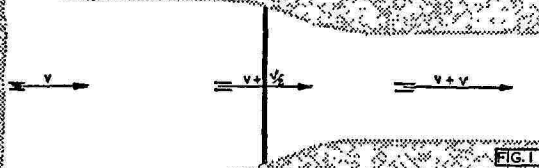
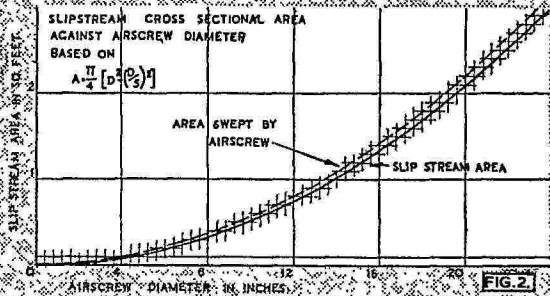

FIG. 1
FIG. 2
Consider Fig. 1. The air just in front of the airscrew disc is being accelerated so that its ultimate velocity is  $V + v$ ,  $V$  being the flying speed, and  $v$  the velocity added by the airscrew. Notice that after leaving the disc, the slipstream diameter contracts slightly, resulting in the cross-sectional area being smaller than the area swept by the airscrew. The exact area for model size airscrews is given in Fig. 2, or by the equation
- $A$  = slip stream area in sq. feet (Fig. 2)
From Fig. 2, slipstream area = 1.23 sq. feet.